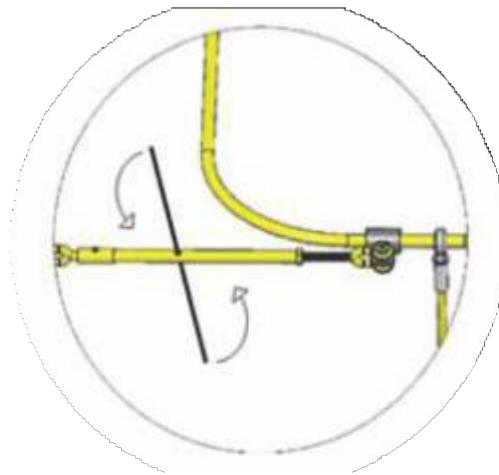

Figure 9
- 9. Tighten the four turnbuckles 1/2 turn at a time, using a bar inserted into the adjustment hole, shown in Figure 9, in the turnbuckle until the recommended 1" to 1-1/2" per 10' of net is achieved. This should place the same amount of tension at each of the four turnbuckle's shear pins.*